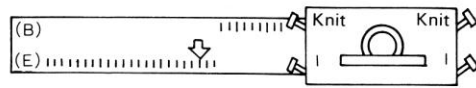

Fig.59
- Set both guide cam levers to “KNIT” and return cam levers to No.1 on each side of the carriage. (Fig.59)
- At the opposite end to the carriage bring forward into position (E) the required number of needles – see also Fig.59, and knit one row.